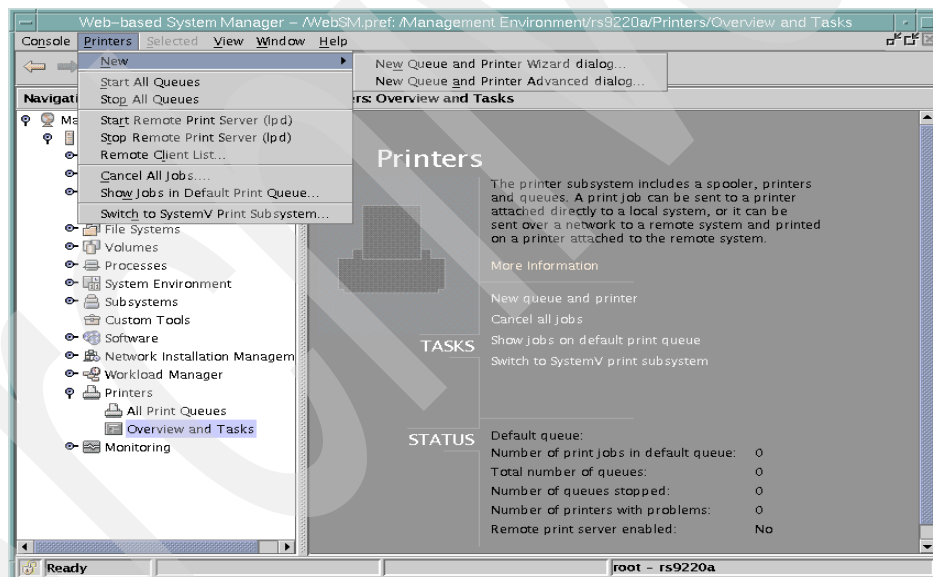

Figure 81. Overview and tasks for printers
2. From the panel shown in Figure 81 on page 304, there are two ways you can add a printer: